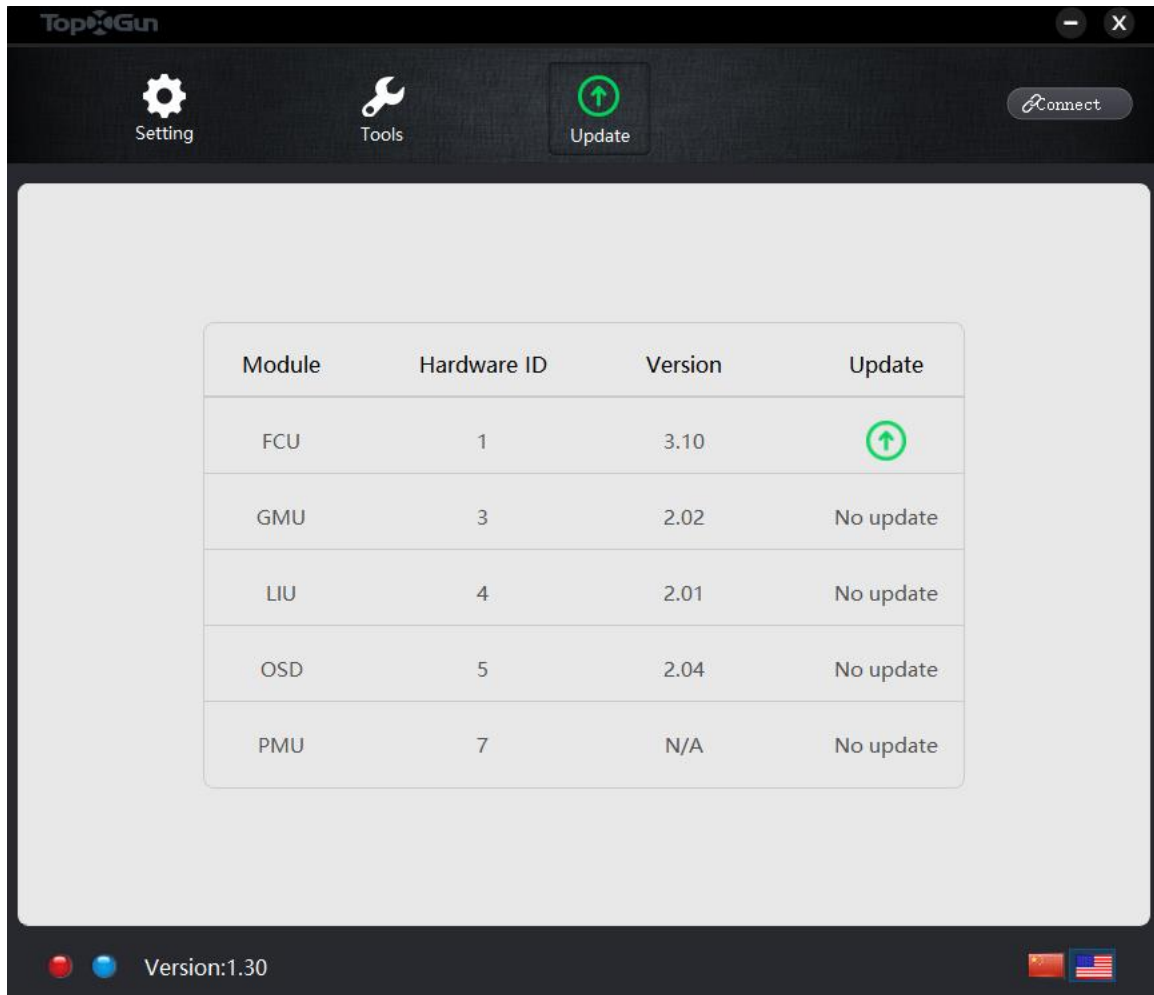

Figure 2-1 Firmware Update 1
Step1. Click 'update' button and enter into the interface of firmware update. The system will indicate if there is module need to be updated as shown in Figure 2-1.